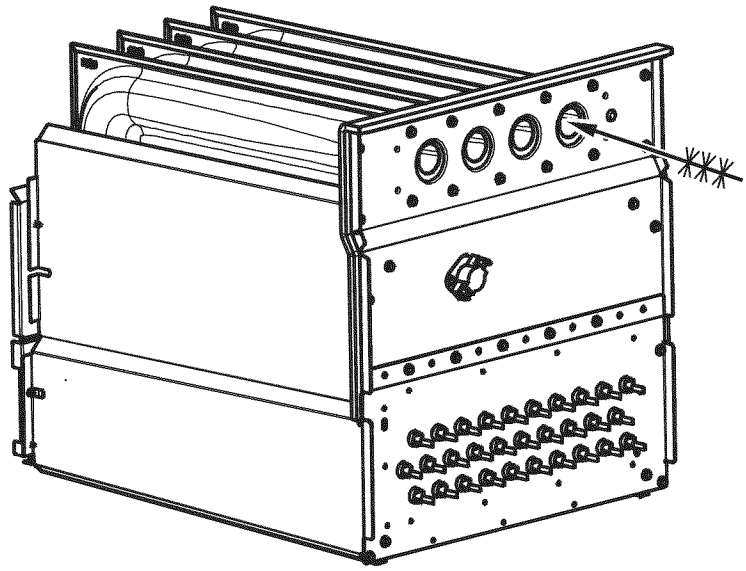

Fig. 58 - Cleaning Heat Exchanger Cell
7. Clean heat exchanger openings with a vacuum and a soft brush. (See Fig. 58.)